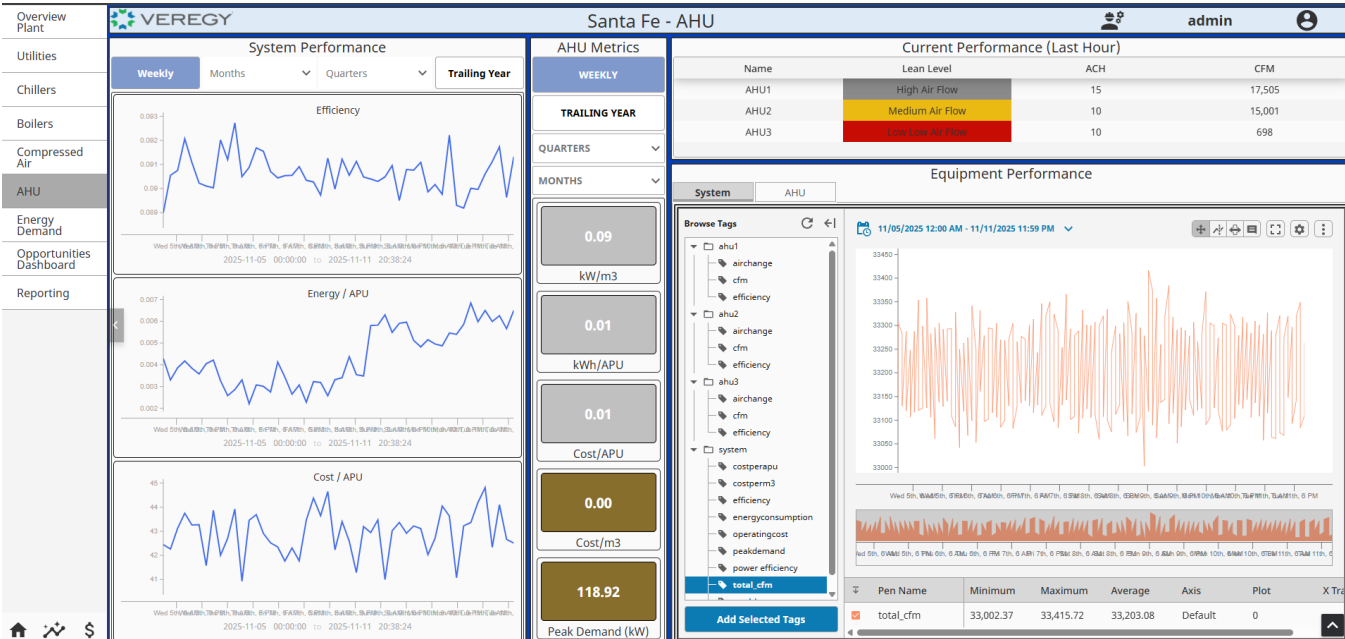

FIGURE 10: AHU DASHBOARD W/ TRENDS
- System Tab - Trend Viewer (Figure 10):